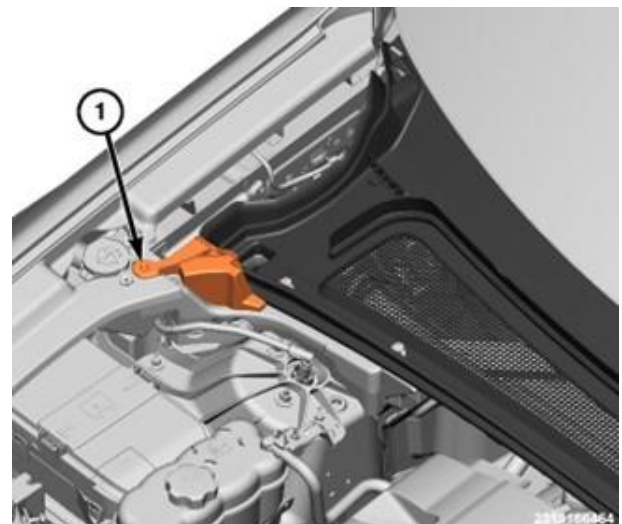

Figure 28 – Foam Seal
- f) Release the push-pin fasteners (1) and remove the corner foam seals (Figure 28).
- g. Foam seal and push-pin fastener (1) (Figure 28).